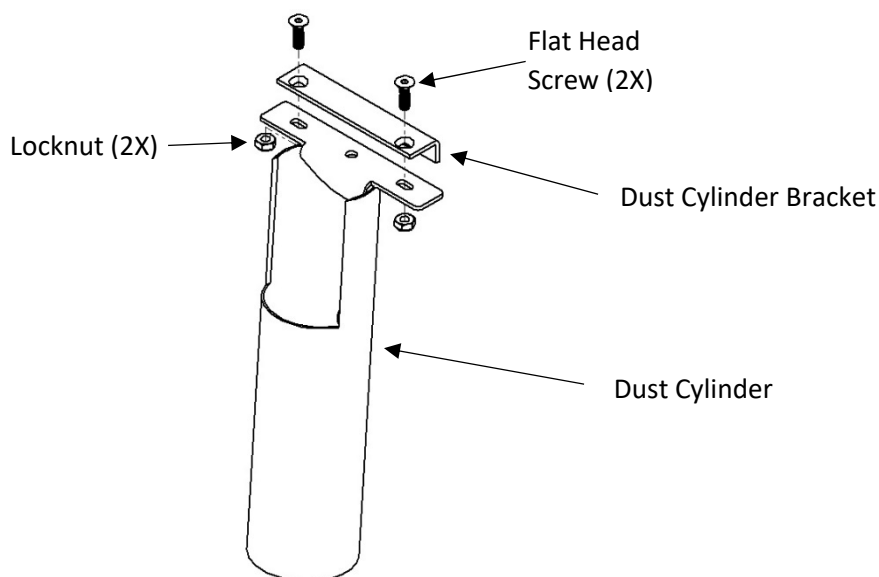

Figure 27: Dust Cylinder Bracket Mounted
5. Place the dust cylinder bracket on top of the dust tube. Align the countersunk holes of the bracket with the slots of the dust cylinder. Insert 2X flat head screws through the countersunk holes and through the slots. Tighten 2X locknuts with 5/32" Allen wrench (supplied) and 7/16" wrench (not supplied). See Figure 27.